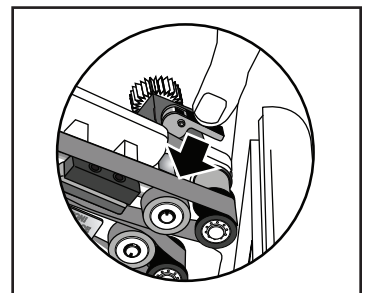

Figure 20
6. Tighten Belts by locking Belt Release lever in place. (See Figure 20)